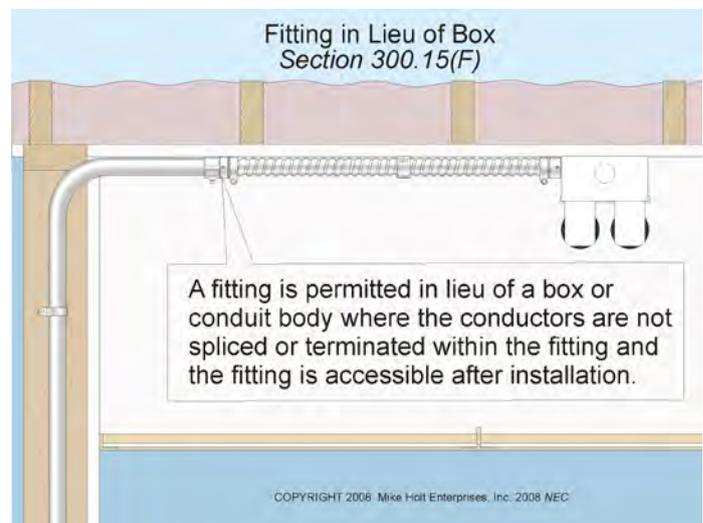

Figure 300–34
(I) Enclosures. A box or conduit body isn’t required where a splice is made in a cabinet or in cutout boxes containing switches or overcurrent devices if the splices or taps don’t fill the wiring space at any cross section to more than 75 percent, and the wiring at any cross section doesn’t exceed 40 percent. See 312.8 and 404.3(B). **Figure 300–35**